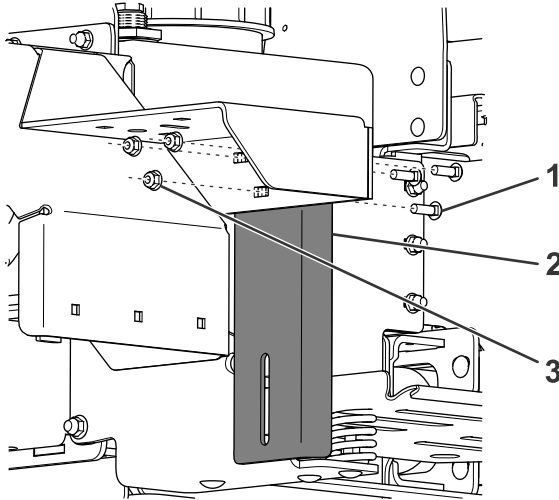

Figure 3
7. Secure the top of the left vertical bracket to the container support-bracket using 3 bolts (5/16 inch) and flange nuts (Figure 3).